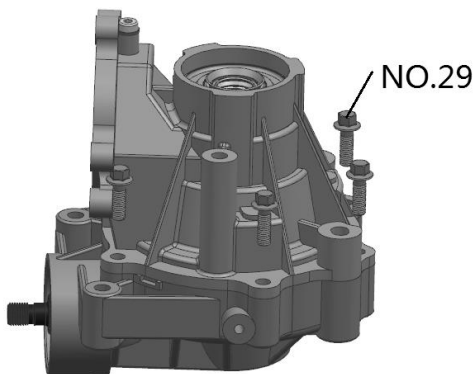

Fig 11
11. Assemble the gearcase halves and install the bolts (NO.29) that secure the cover to the housing. Torque the bolts in a criss cross pattern to 20~25Nm. →Fig 11